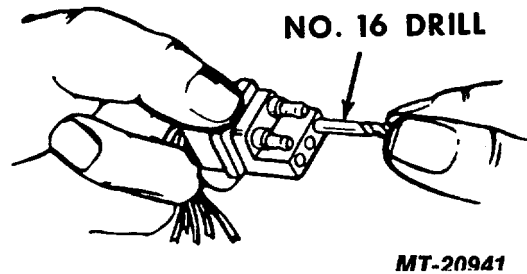

Fig. 9a Checking Fit of Terminal Connectors
10. Check fit of sensor-to-ignition control and coil-to-ignition control connector terminals as follows (see Fig. 9a).